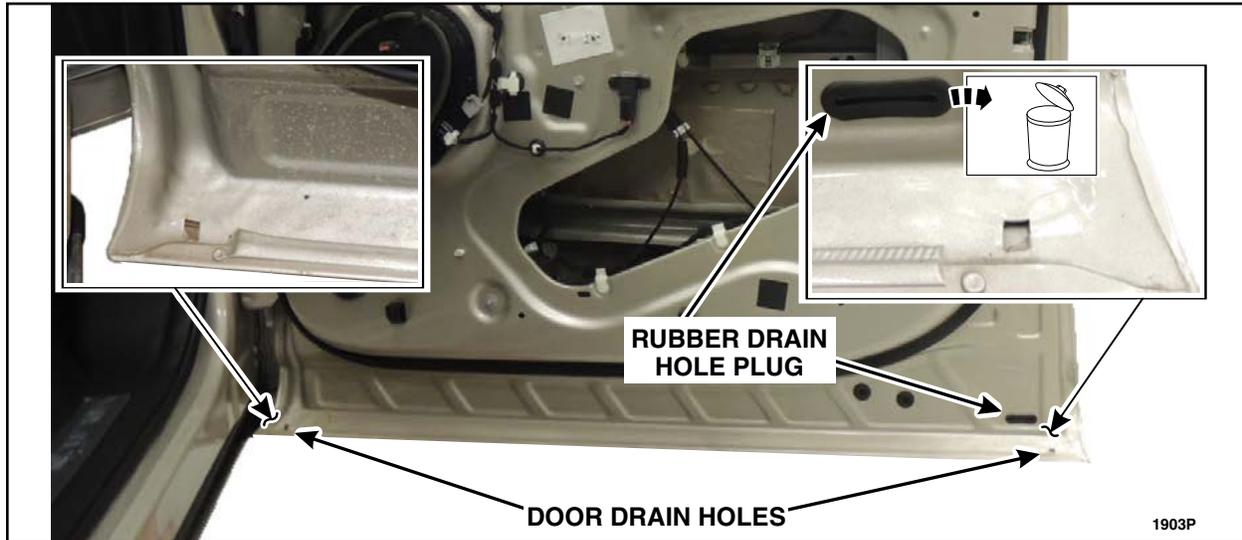

FIGURE 23
2. Remove and discard the rubber drain plug and clean any obstructions, debris, foreign material and residual water from all of the door drain holes using compressed air and a tool such as a plastic trim tool or a zip tie. See Figure 23.